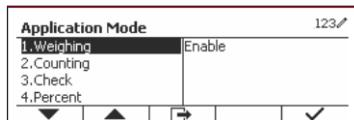

Figure 38
- In the Application Mode menu, enter the Weighing submenu. (See Figure 38)